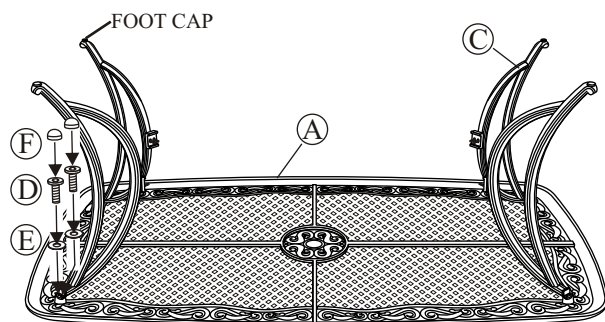

Fig.1
1 **Important: We recommend 2 people work together to assemble the chair.** Note the arrow labels on the "U" bar and the rocker assembly. Also note the horseshoe shape of the rocker plate. Point the open end of the horseshoe away from you. The arrows on the rocker assembly should be pointing towards you. Set the chair frame on the rocker assembly with front of the seat facing you and the arrows on the "U" bar pointing towards you as shown in **Figure 1**. This is very important for a safe, balanced rocking motion. **If chair frame has been properly positioned on the rocker assembly, all arrows on the "U" bar and rocker assembly will be pointing in the same direction.**
Step 2: Place the table top upside down on a flat, non-abrasive surface. Attach a table leg to the table top by using the bolts and washers as shown in Fig.1. Guide bolts through holes in the table legs and into the pre-drilled holes in the table top. **Hand tighten 2-3 turns only.** Repeat for the other three legs.